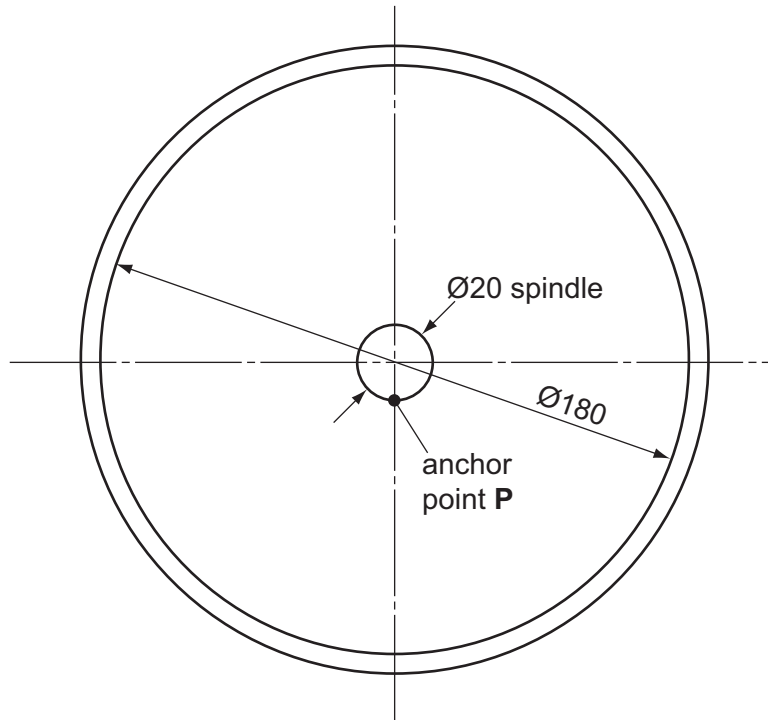

Fig. 3
- 3 Fig. 3 shows the elevation of a cylinder, which houses a spring. The spring is fixed to the 20 mm diameter spindle at the anchor point **P** and takes the form of an involute until it reaches a radius of 30 mm. At this point, the spring takes the form of an archimedean spiral for two convolutions before reaching the 180 mm inside diameter of the cylinder, where it is attached at the point of contact.